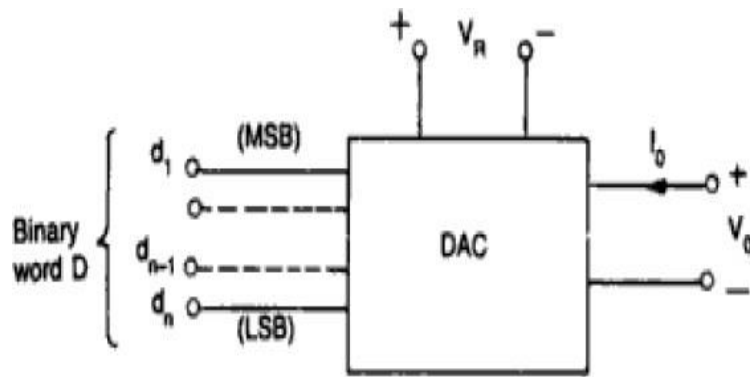

Fig. 10.2 Schematic of a DAC
- The schematic of a DAC is shown in Figure 10.2.